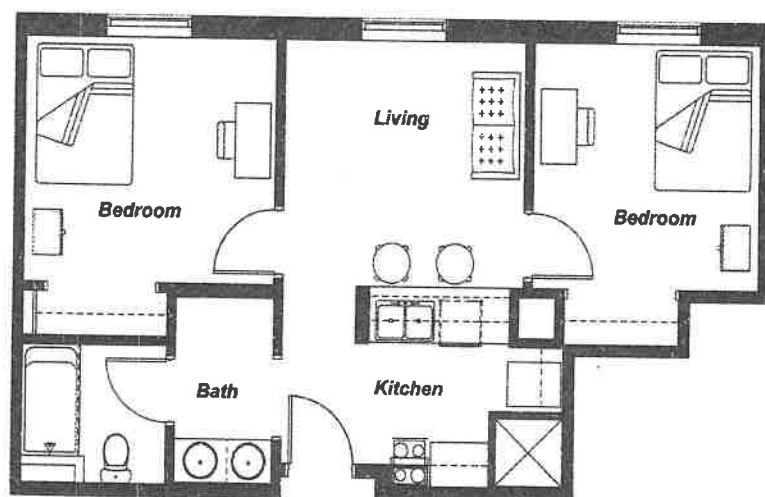

Figure Q4(a)
- Q4 a) Answer the following questions using the Figure Q4(a) which is a plan of a house.
- Copy the Figure Q4(a) to your answer sheet (a clear sketch should be enough) and show how you can design an electrical circuit to this house. (Sketch electrical outlets, lights etc on the figure. No need to show electrical wires.) Explaining the importance and how to use diversity factor in electrical circuit design using your design in this part.